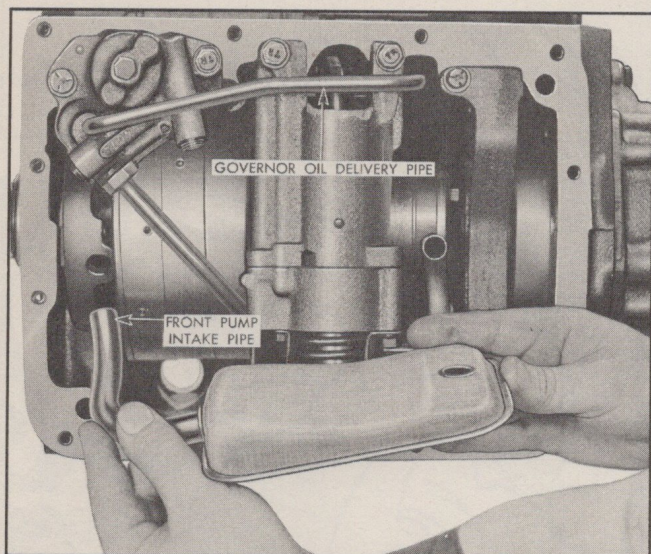

Fig. 41 Installing Front Pump Intake Pipe
2. When installing front pump intake pipe, be sure to slide it well down into the "O" seal ring in pump intake port (Fig. 41).
3. After servos have been installed, install governor oil delivery pipe between front servo and passage in case between rear servo and rear pump (see Fig. 41). Rotate governor a full turn to make sure